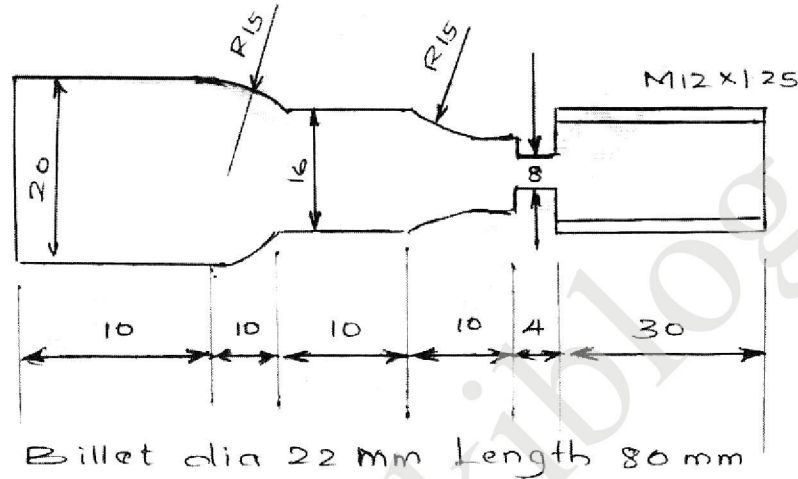

Fig.Q9(b)
b. Write a part programming for the component shown in the Fig.Q9(b). (08 Marks)